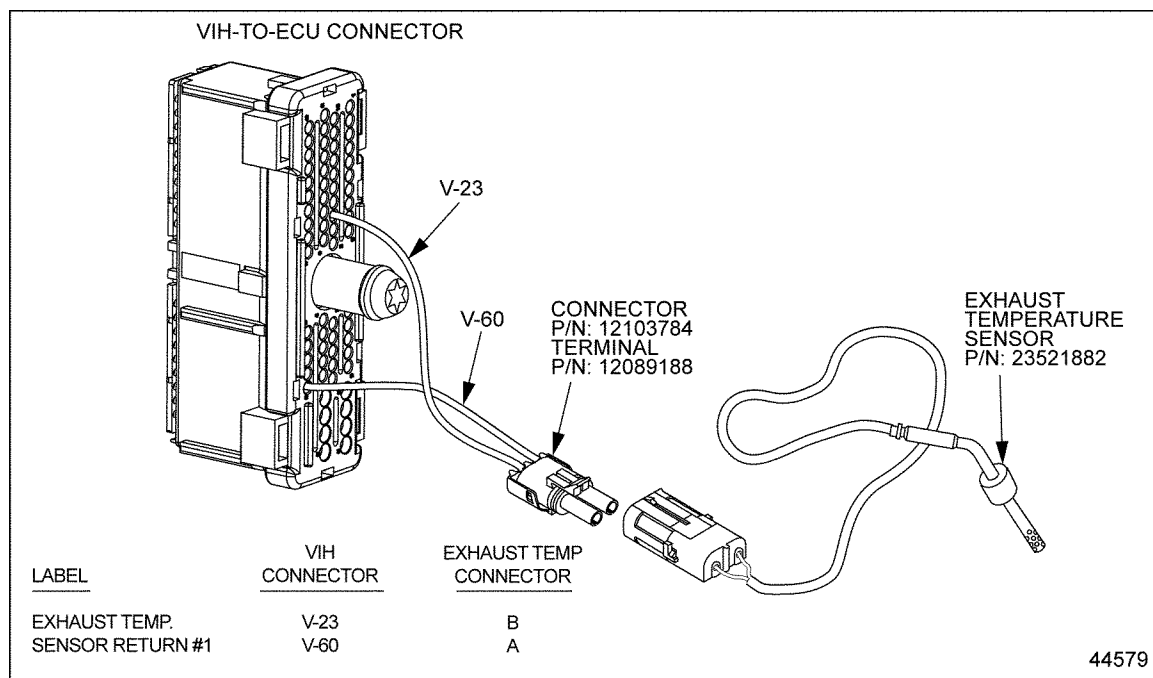

Figure 71-4 Exhaust Temperature Sensor Wiring
2. Install a jumper wire between the two pins at the ETS. See Figure 71-4.
4. Measure resistance between V-23 and V-60. See Figure 71-4.
2. Measure resistance again between V-23 and V-60. See Figure 71-4.
1. Measure the resistance between cavity V-23 and ground (battery and block). See Figure 71-4.